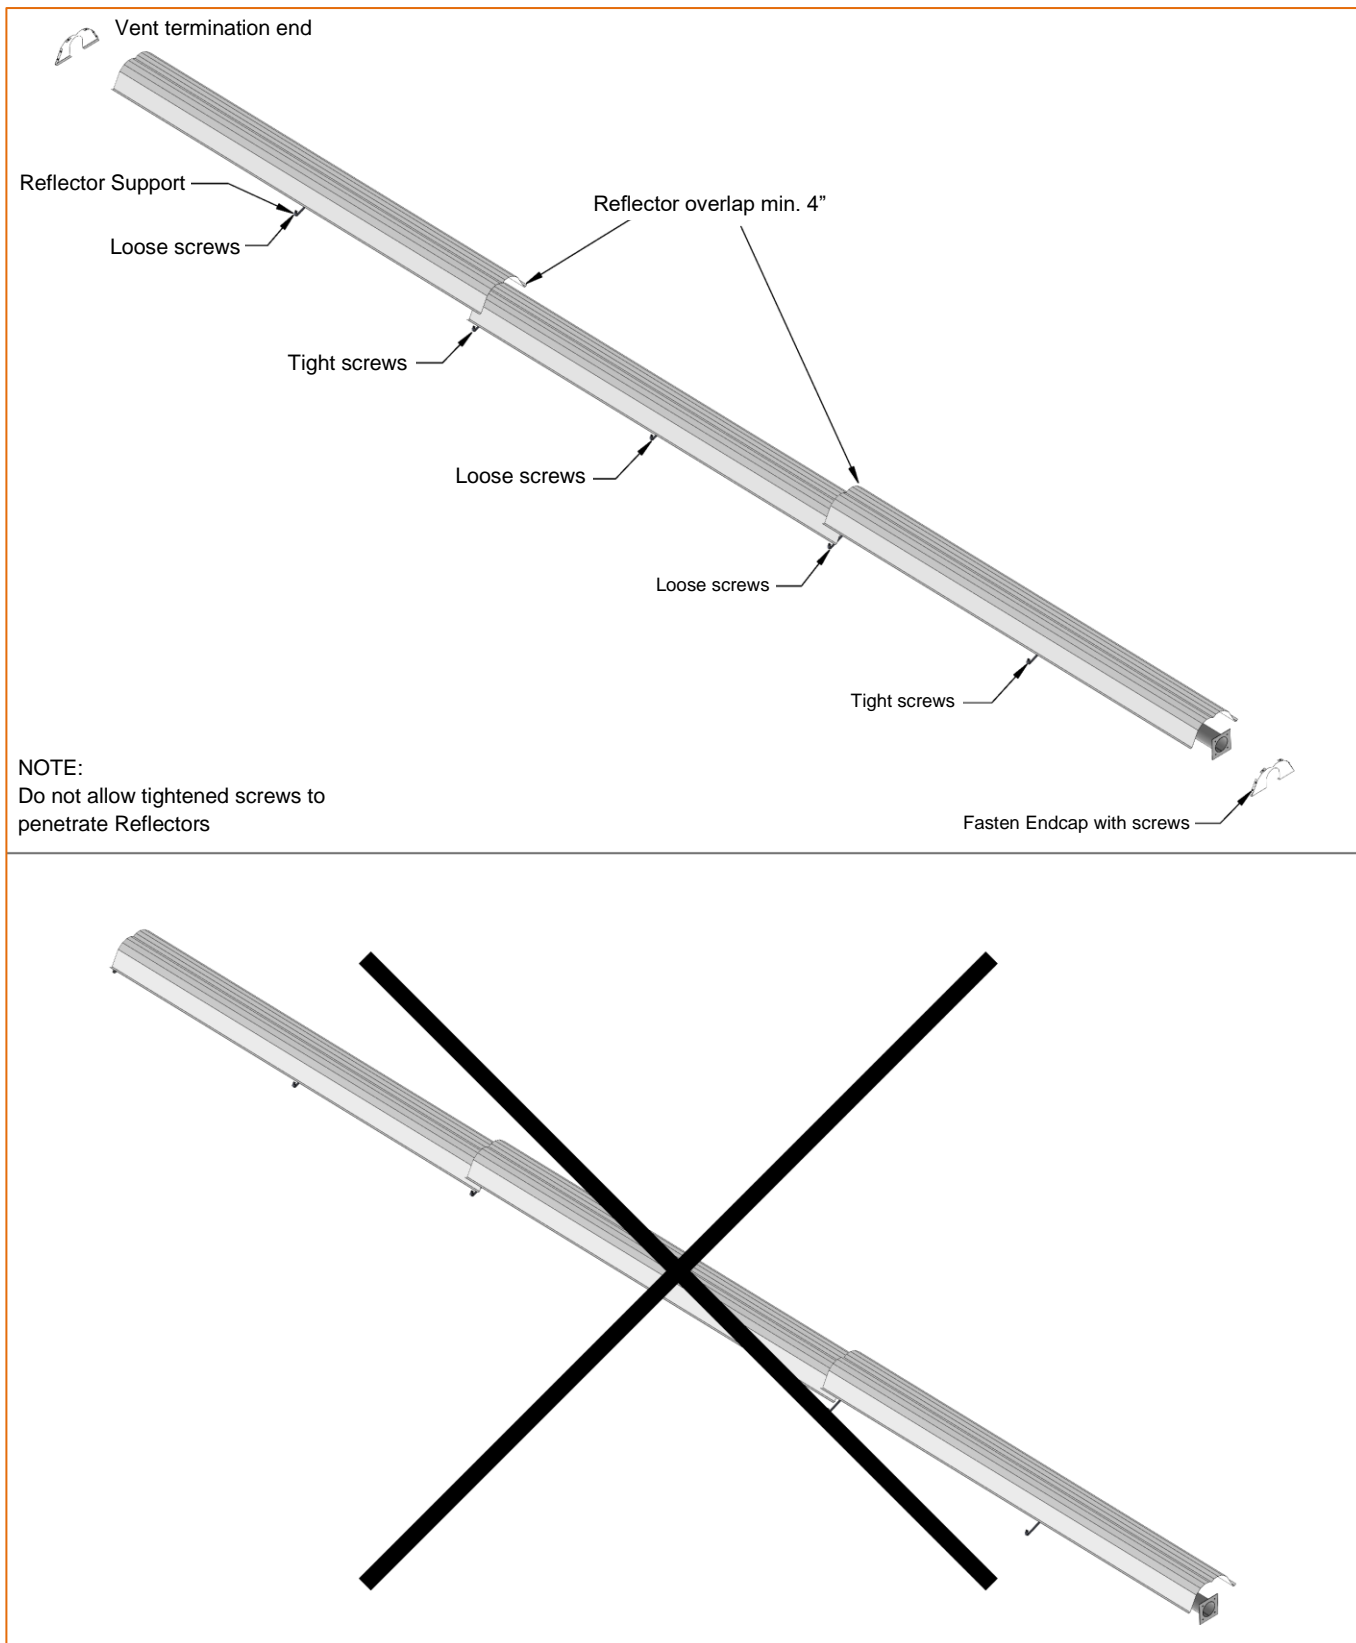

Figure 15: Reflector Overlap Illustration
**Note:** Reflectors should overlap adjacent reflectors a minimum of 4". Be sure not to tile reflector sections; that is, reflector sections must be either above both adjacent reflector sections, or below both adjacent reflector sections. Refer to Figure 15.